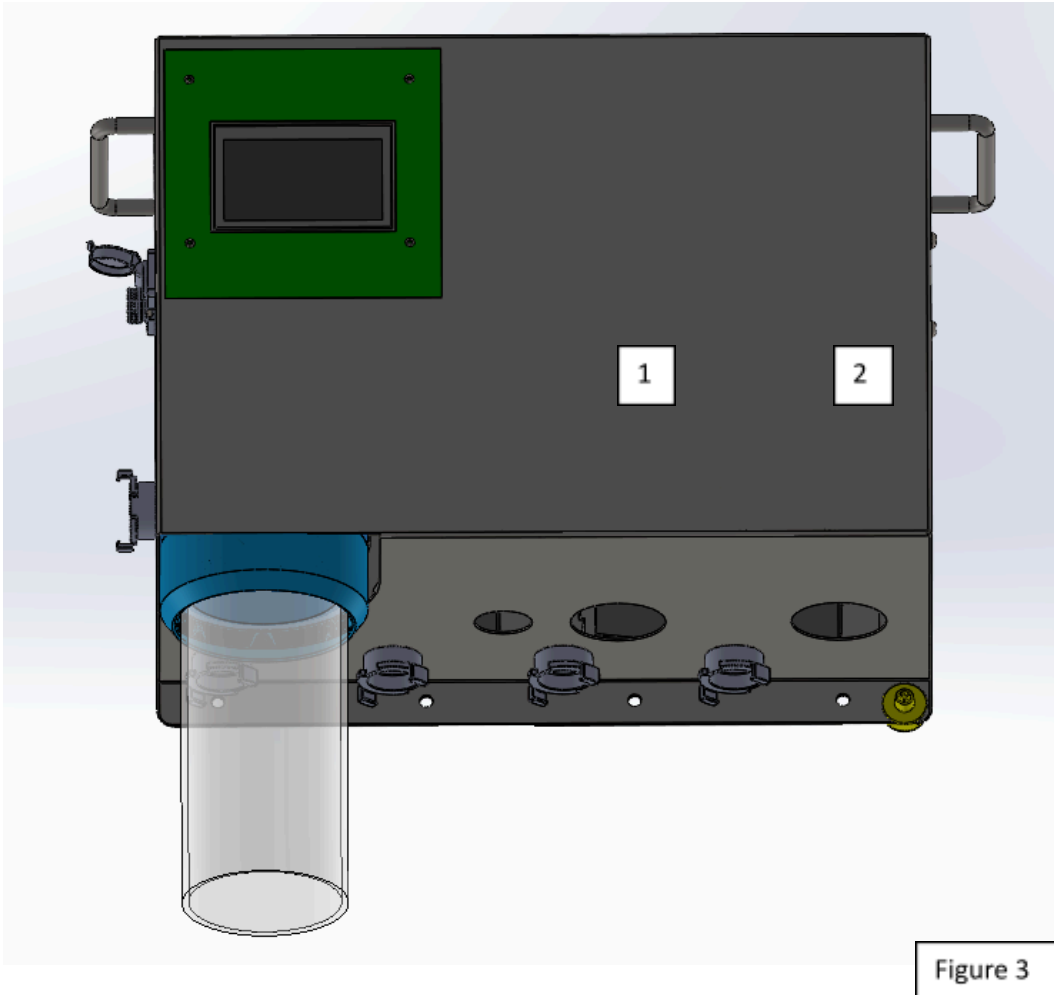

Figure 3
The pump at the left hole (1) must be connected to MS HoofClean Care. The pump at the right hole (2) is meant to dose another different product (see figure 3).